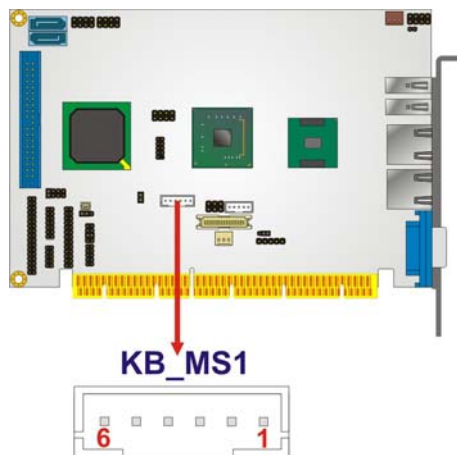

Figure 4-15: Keyboard/Mouse Connector Location
- CN Location:** See **Figure 4-15**